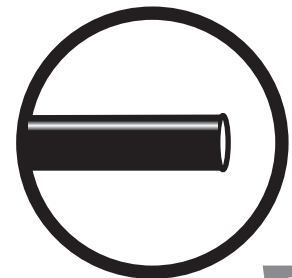

fig. 18
- a. Check the air line connection by deflating the spring and removing the line by pulling the collar against the fitting and pulling firmly on the air line. Trim 1" off the end of the air line. Be sure the cut is clean and square (see fig. 18). Reinsert the air line into the push-to-connect fitting.
2. If the preceding steps have not resolved the problem, call Air Lift customer service at (800) 248-0892.